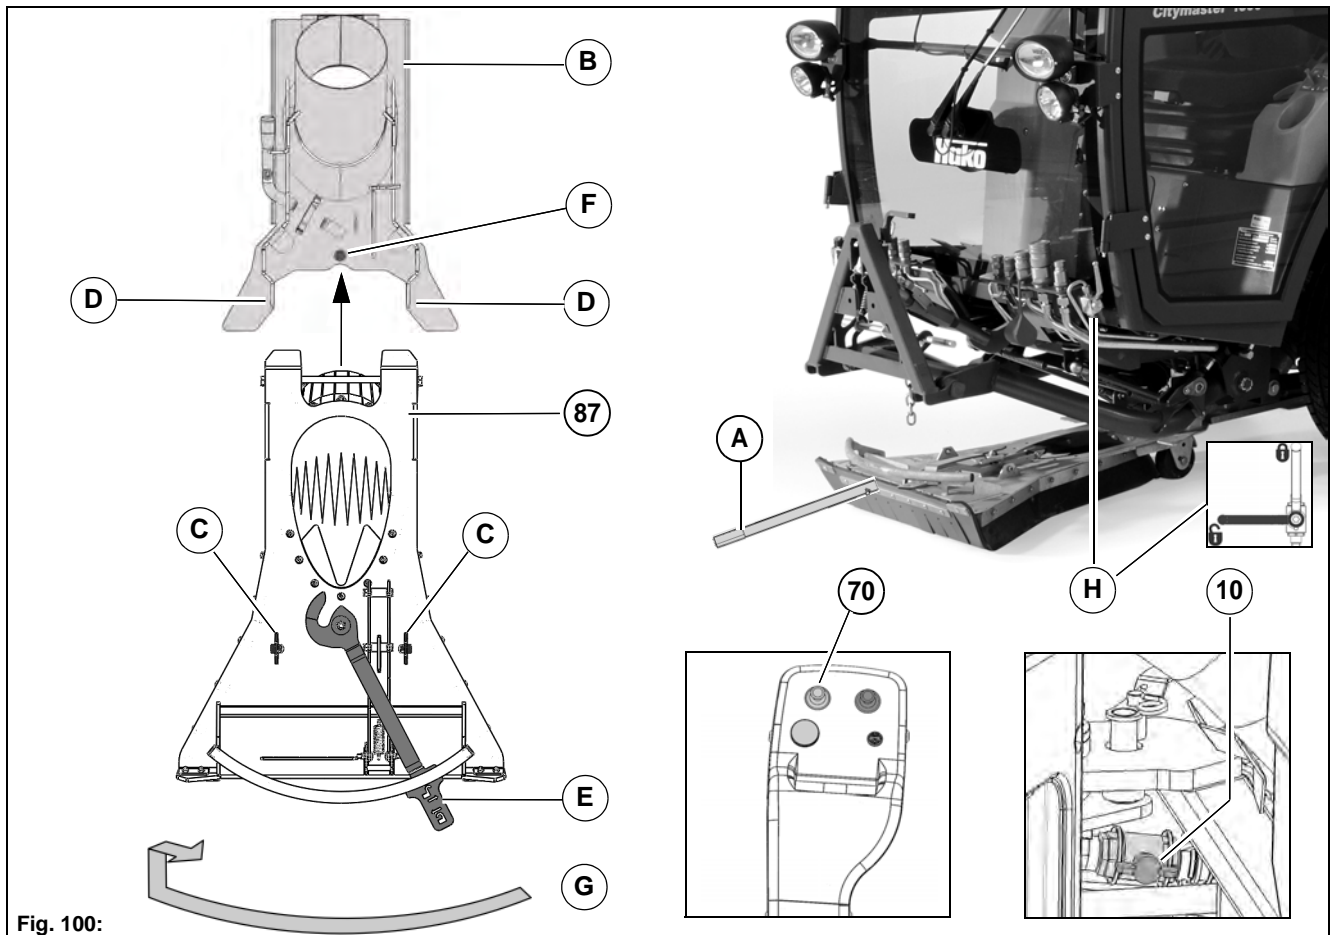

Fig. 100:
3. Position the suction mouth Fig. 100-87 by hand or with the auxiliary tool Fig. 100-A centrally under the holding plate Fig. 100-B.
4. Open the valve Fig. 100-H. Push the joystick Fig. 100-70 forwards. When the valve is open, the holding plate is lowered onto the suction mouth.
5. Shift the suction mouth centrally under the holding plate until the stops Fig. 100-C come up to the points Fig. 100-D.
6. With the lever Fig. 100-E lock and secure the suction mouth on the counter bearing Fig. 100-F of the holding plate, see sketch Fig. 100-G.